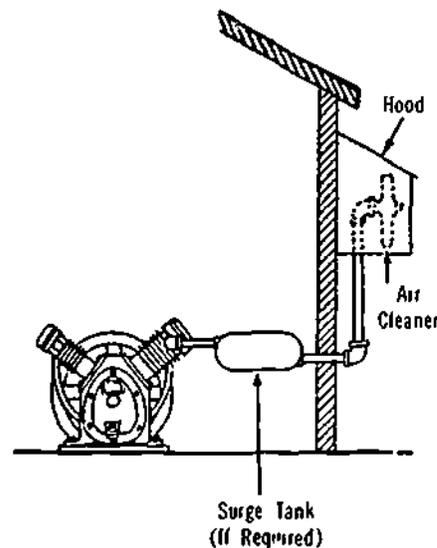

Figure 32-5. Inlet Piping Arrangement
7. *Inlet Piping.* Compressors are normally equipped with inlet mufflers and cleaners, but inlet piping is not included. If desired, the inlet may be piped to another room; in any event, the inlet muffler and cleaner must be used, and if the inlet is piped outdoors, it must be hooded to prevent the entry of rain and snow. In areas of heavy snowfall, it should be positioned high enough to be free of drifts. Inlet piping should be as short and direct as possible and as large as, or larger than, the diameter of the inlet connection. It must also increase in diameter at 15 m intervals. If the total length of piping is between 15 m and 30 m, it is recommended that the increase in diameter be made mid-point in the length, that is if the total length is 24 m, increase the pipe diameter at the 12 m point. (See Figure 32-5.)
Figure 32-5 shows a typical hookup, with a surge tank, which is required for compressors that are regulated by a constant-speed or dual control fitted to the inlet piping. If a surge tank is not fitted, air surging in and out of the inlet when the compressor is running unloaded (inlet valves open) will cause the inlet piping to heat. Thus, when the compressor loads (inlet valve closed on the compressor stroke), the hot piping will increase the temperature of the inlet air to a degree that would contribute to carbonization and consequent valve trouble. Consult the manufacturer's instructions during installation for the requirement and for the capacity of the surge tank to be purchased if not supplied with the unit.